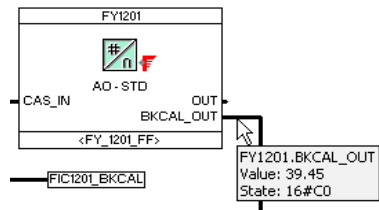

Figure 181. Online Data
- b. Move the mouse cursor on a block pin or an FF signal line to display the current values of input or outputs (refer to Figure 181).